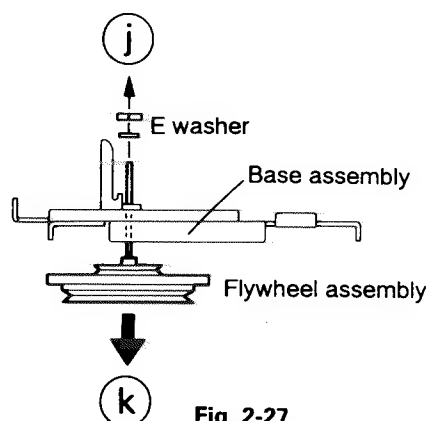

Fig. 2-27
■ Flywheel assembly (Fig. 2-27)
1. E. washer retaining the flywheel assembly in the direction of arrow ①.
2. Pull the flywheel assembly out of the back side of the cassette mechanism in the direction of the arrow ②.